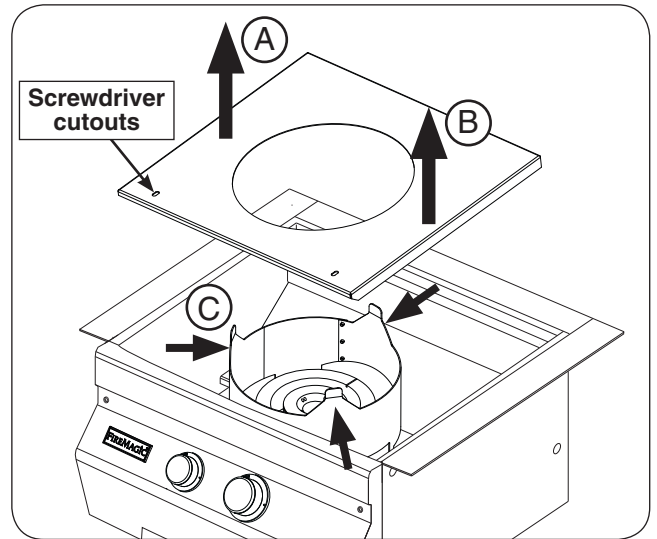

Fig. 29-1 Interior protection plate removal
2. Lift up the interior protection plate from the left side, then lift up from the right side (see Fig. 29-1, A and B).
3. While lifting the plate upward, flex the collimator inward to completely free the protection plate (see Fig. 29-1, C).